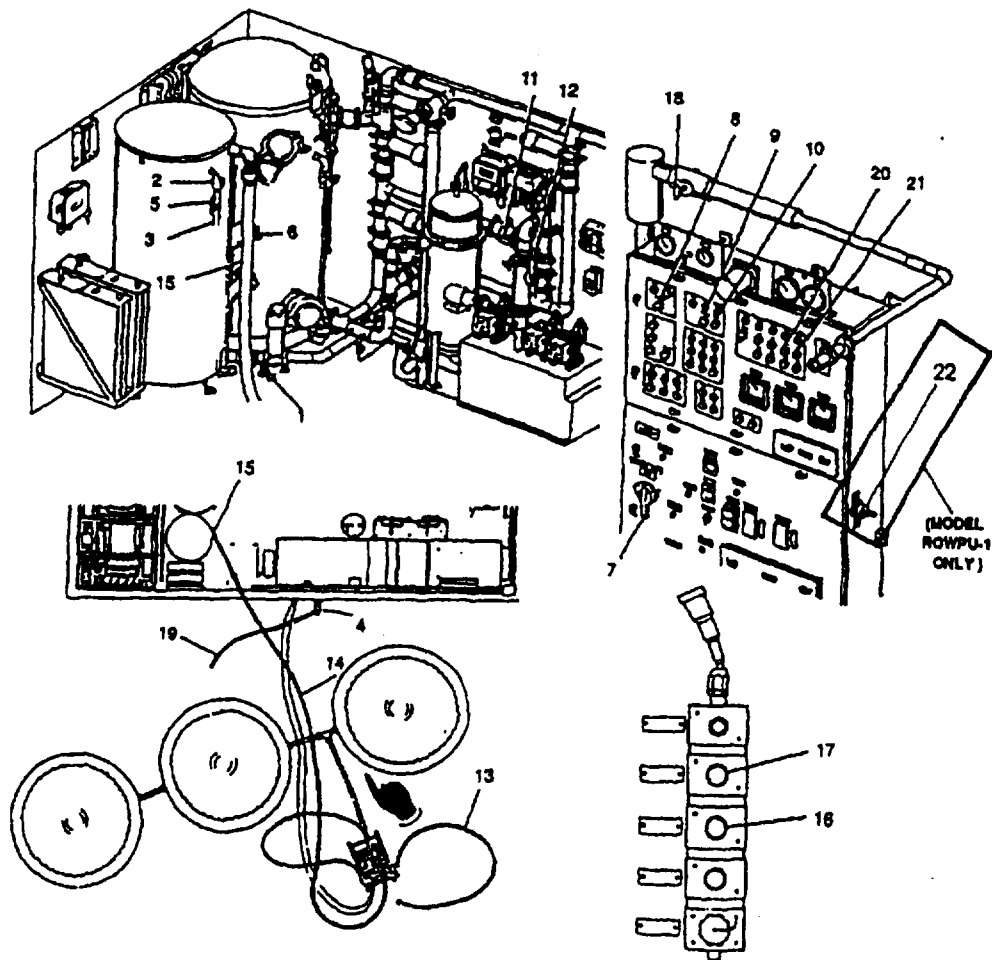

Figure 2-52. System Flush
- (a) Open clean/flush tank drain valve (1, Figure 2-52).
- (b) Remove cartridge filter water utility hose from the clean flush tank inlet (2). Connect product utility hose (3) to the clean/flush tank inlet (2).
- (c) When the tank is empty close the drain valve (1).
- (d) Partially close the potable water shut-off valve (4) to provide back pressure.
- (e) Open product utility hose valve (5) and fill to 100 gallons, close valve.
- (f) Open the chemical port cover (6) and pour in one 2 ounce packet of bisulfite. Clean off any chemical that lays in port opening.
- (g) Close cover (6).
- (h) Open the product utility hose valve (5).
- (i) When the level reaches the 200 gallon (757 l) level, close the utility hose valve (5) and open the product shut-off valve (4).
- (2) Backwash as described in para 2-21 b-c Do not forward flush the media filter
- b. *System Flush* (Figure 2-52). Flush with potable water as follows.
- (1) Make sure MAIN circuit breaker (7) is ON and SYSTEM MODE switch (8) is in SYSTEM ON position.
- (2) Set OPERATION MODE switch (9) to SYSTEM CLEAN.
- (3) PUSH INITIATE (10).
- (4) Close feed valve (11).
- (5) Open cleaning bypass valve (12).
- (5.2) Open product utility hose valve (5).
- (6) Fill clean/flush tank with potable water.
- (a) Disconnect one dispensing hose (13, Figure 2-52) from distribution pump.
- (b) Connect auxiliary hose (14) to pump.
- (c) Pass auxiliary hose through doorway and connect to clean/flush tank overflow hose (15).
- (d) Press DISTRIBUTION PUMP ON pushbutton (17).
- (e) Fill clean/flush tank to 50 gallon level. Press DISTRIBUTION PUMP OFF pushbutton (16).
- (f) Remove chemical port cover (6) and pour in one 2 ounce bag of bisulfite. Clean off any chemical that lays in port opening.
- (g) Replace chemical port cover (6).
- (h) Press DISTRIBUTION PUMP ON pushbutton (17) and fill clean/flush tank to 200 gallons (757 l).
- (i) Press DISTRIBUTION PUMP OFF pushbutton (16) when tank is full.
- (a) Open product shut-off valve (15).
- (b) Disconnect the flush/purge hose (8) from water flush adapter (7).
- (c) Connect flush/purge hose to the utility air connection (16).